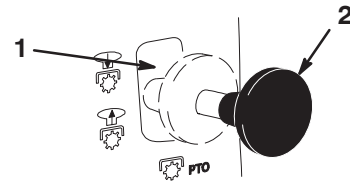

Figure 5
2. Pull the blade control (PTO) to on (Fig. 5).
2. Push the blade control (PTO) to off (Fig. 5).
3. Push the blade control (PTO) to **off** (Fig. 5).